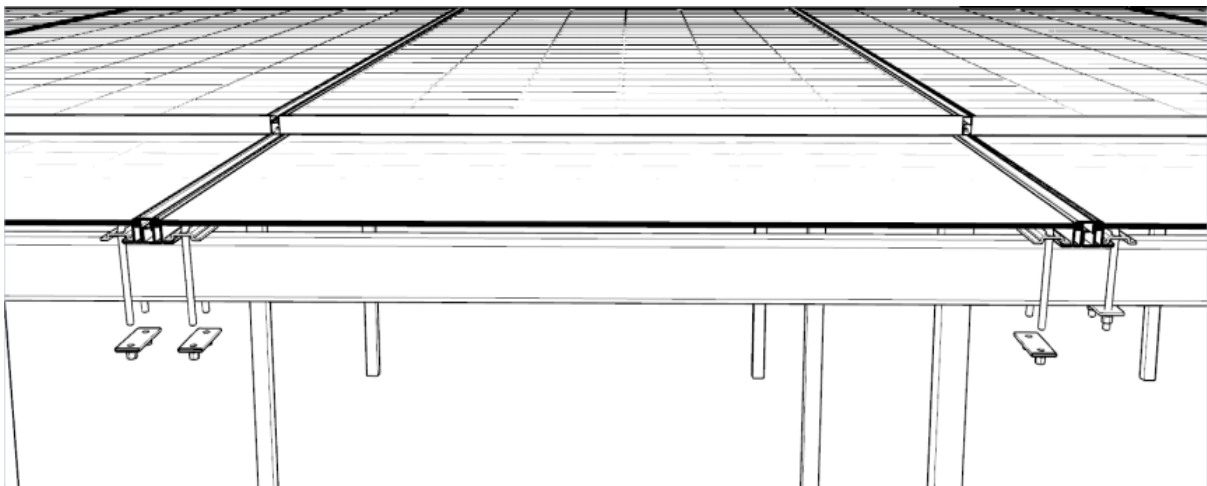

FIGURE 34
- Secondly, remove the nuts of the hoop on the long side frames of the target product and the product on the left side, and remove all the installation fittings at the upper end (Figure 34) and lower end (Figure 35).